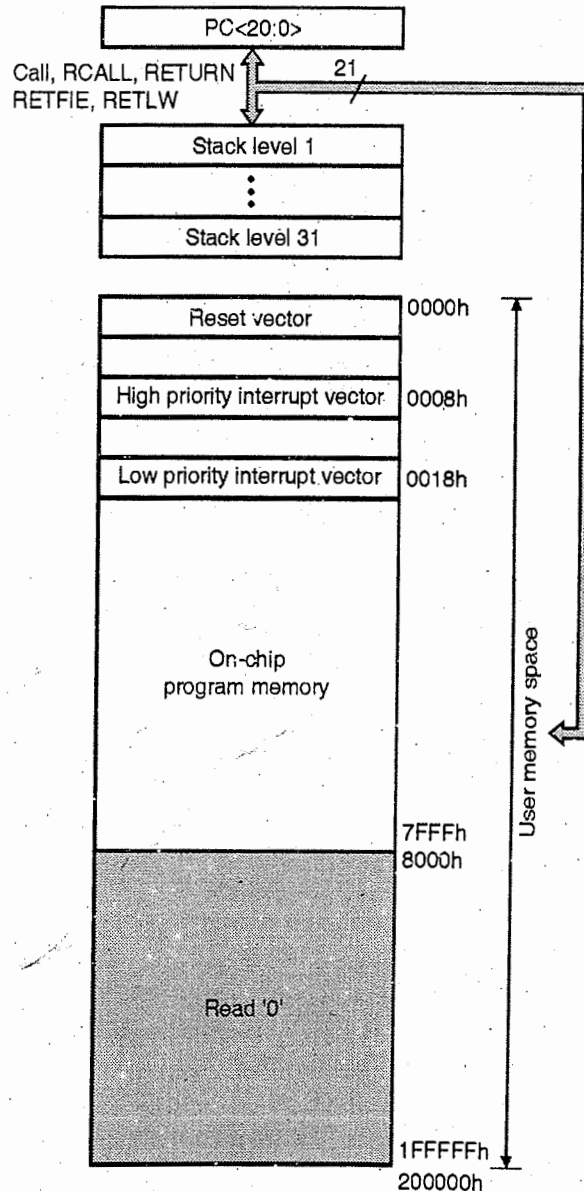

Fig. 4.9.3: Program memory map and stack for PIC18F458
- The program memory contains instructions for execution and data tables for storing fixed data. Fig. 4.9.3 shows the diagram for the program memory map and stack for the PIC18F458.
- As shown in Fig. 4.9.3 the microcontroller has a 32 level stack . This stack holds the return addresses for interrupts and subroutine calls . This return address stack is not part of the program memory space.
- As shown in Fig. 4.9.3, the address 0000 H is allocated assigned to the **Reset vector**. This address is the address at which a after reset a microcontroller program will begin.